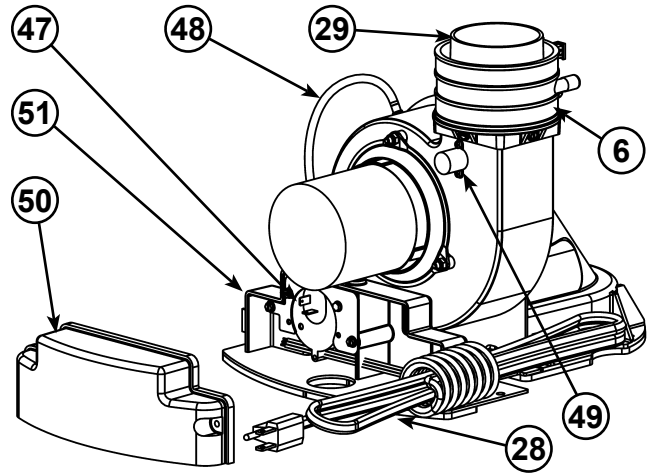

Figure 60
- 6 Gear Clamp (see Figure 6) (see also **Figure 60**)
- 29 \*Rubber Coupling (see Figure 6) (see also **Figure 60**)
- 47 Air Switch (inside box) (see Figure 6) (see also **Figure 60**)
- 48 Air Tubing (see Figure 6) (see also **Figure 60**)
- 49 Blower High Limit Switch (see Figure 6) (see also **Figure 60**)
- 50 Junction Box Cover (see Figure 6) (see also **Figure 60**)